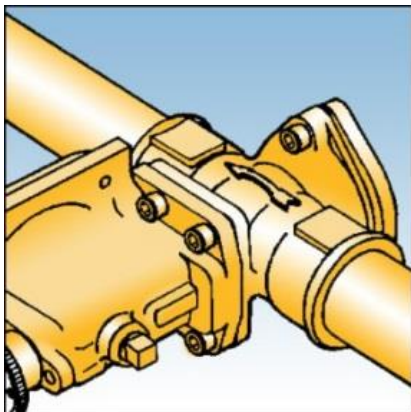

Fig. 1
6. The direction of gas flow must be the same as arrows on the OPSS body. See Fig. 1.